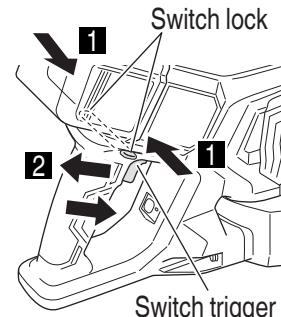

Fig. 14
This product is equipped with a switch lock to prevent inadvertent switch operations. (Fig. 14)
(3) Press the switch lock in either direction to release the lock, and pull the switch to cut the rebar. (Fig. 14 on page 54)